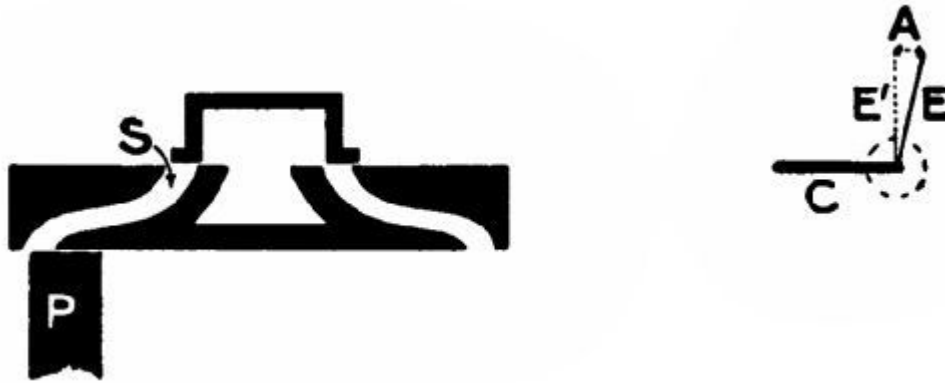

FIG. 26.
It must be noticed here—(1) that steam is admitted at full pressure *all through* the stroke; (2) that admission begins and ends simultaneously with the stroke. Now, in actual practice it is necessary to admit steam before the piston has ended its travel, so as to *cushion* the violence of the sudden change of direction of the piston, its rod, and other moving parts. To effect this, the eccentric is set more than 90° in advance—that is, more than what the engineers call *square*. Fig. 26 shows such an arrangement. The angle between *E* and *E*¹ is called the *angle of advance*. Referring to the valve, you will see that it has opened an appreciable amount, though the piston has not yet started on its rightwards journey.